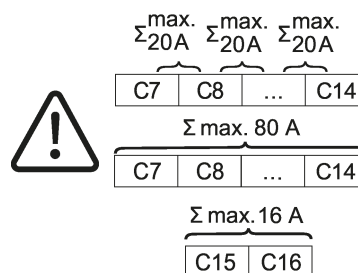

Figure 5: Summation currents
- Observe the current carrying capacity of the load outputs (see figure 5).